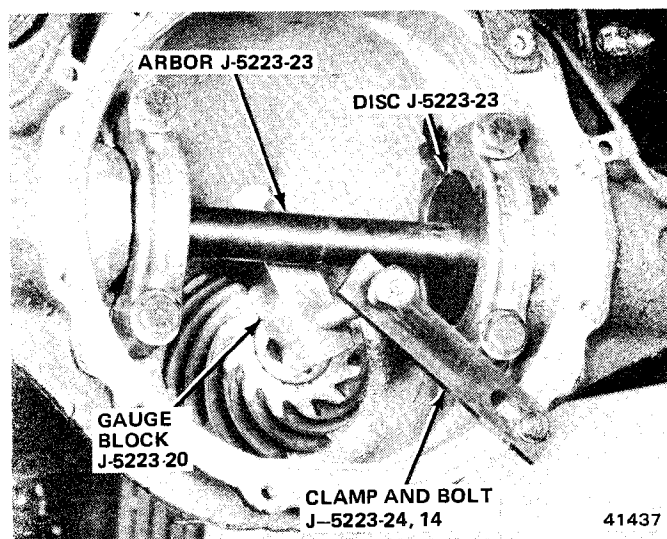

Fig. 2F-53 Installing Pinion Depth Gauge Tools
(12) Assemble Arbor Tool J-5223-4 and Discs J-5223-26 (Model 30 axle) or Discs J-5223-25 (Model 44 and 60 axles) and install in differential bearing cup bores in axle housing (fig. 2F-53). Be sure discs are seated in bearing cup bores.
(13) Install differential bearing caps over discs. Tighten bearing cap bolts securely, but not to specified torque.
(14) Install Plunger J-5223-27 in Gauge Block J-5223-20. Compress plunger completely and tighten thumbscrew in gauge block.